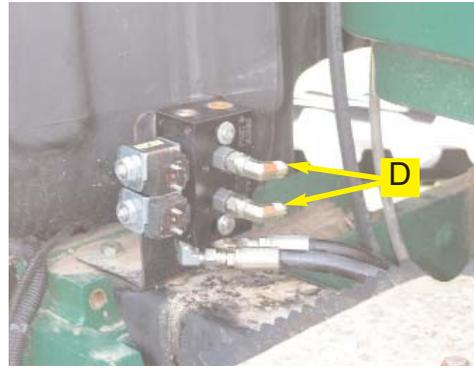

Figure 6a. Installed adapter fittings.
- a. Install the adapter fittings (**D**) on the **A** and **B** ports of the Automated Steering Block. (Figure 6a.)